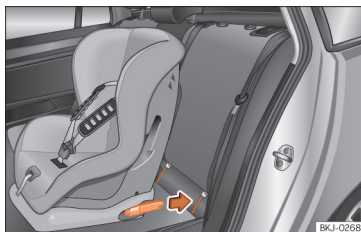

Fig. 25 Rear seats: fitting a child seat with the ISOFIX system.
- Press the child seat onto the “ISOFIX/iSize” retaining rings until the child seat is heard to engage securely »» Fig. 25. If the child seat is